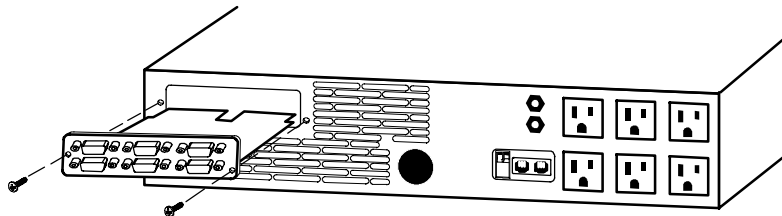

Figure 3. Installing the Multi-Port Module (Powerware 9125 UPS Shown)
2. Remove the X-Slot cover (or existing X-Slot module) on the UPS rear panel. Retain the screws (see Figure 3).